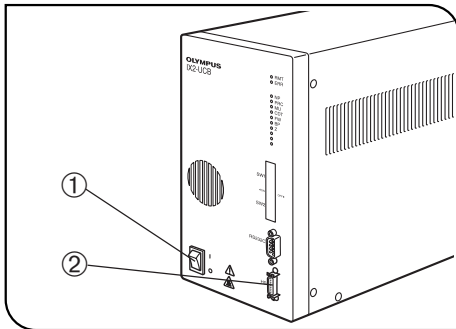

Fig. 4
▲ Make sure that the main switch ① of the control box to “○” (OFF) before connecting the cable of the Hand Switch (and other modules) and the power cord. (Fig. 4)
1 Connecting the Hand Switch Cable (Fig. 4)